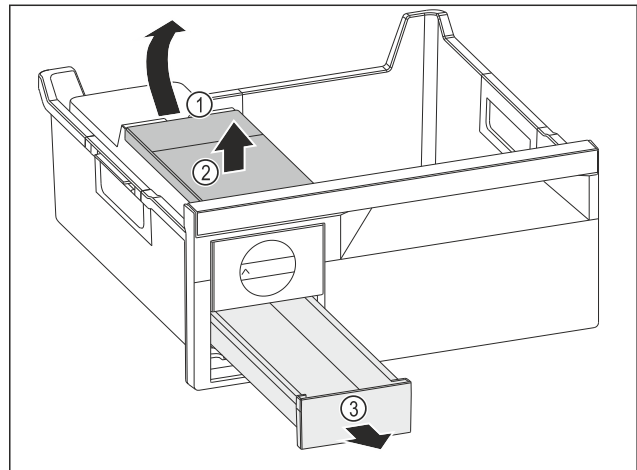

Fig. 153
- ▶ Removing the water tank: Lift the water tank at the recess Fig. 153 (1).
- ▶ Remove the water tank Fig. 153 (2) upwards.
- ▶ Remove the ice cube tray Fig. 153 (3) from the front.